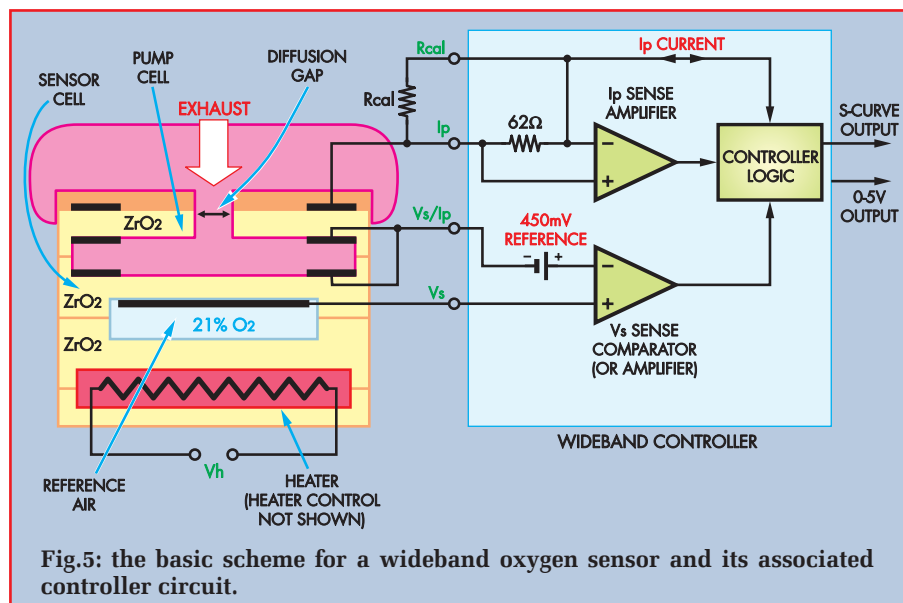

Fig.5: the basic scheme for a wideband oxygen sensor and its associated controller circuit.
Fig.5 shows the basic scheme for a wideband controller. Here,  $V_s$  is the output voltage from the oxygen sensor cell, while  $I_p$  is the current into or out
**Fig.10:** this graph plots the  $I_p$  current versus lambda for the wideband sensor. The curve in the lean region ( $\lambda = 1$  to  $1.84$ ) was developed from the oxygen concentration graph shown in Fig.5 and the equation  $((\text{Oxygen percentage}/3) + 1)/(1 - 4.76 \times \text{Oxygen percentage})$  to give a 20-step, piecewise-linear graph. The intermediate values were then calculated by interpolating between adjacent calculated values. For the rich region, the 4-step graph provided by Bosch is used.